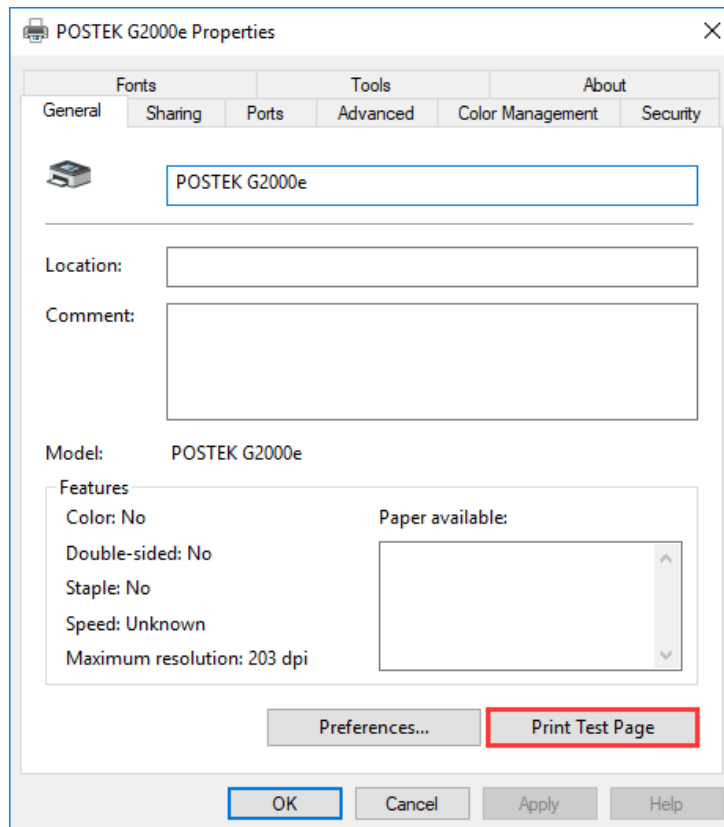

Figure 2-21 Print Test Page
- Print a test page to see whether the printer is connected properly, as shown in Figure 2-21.